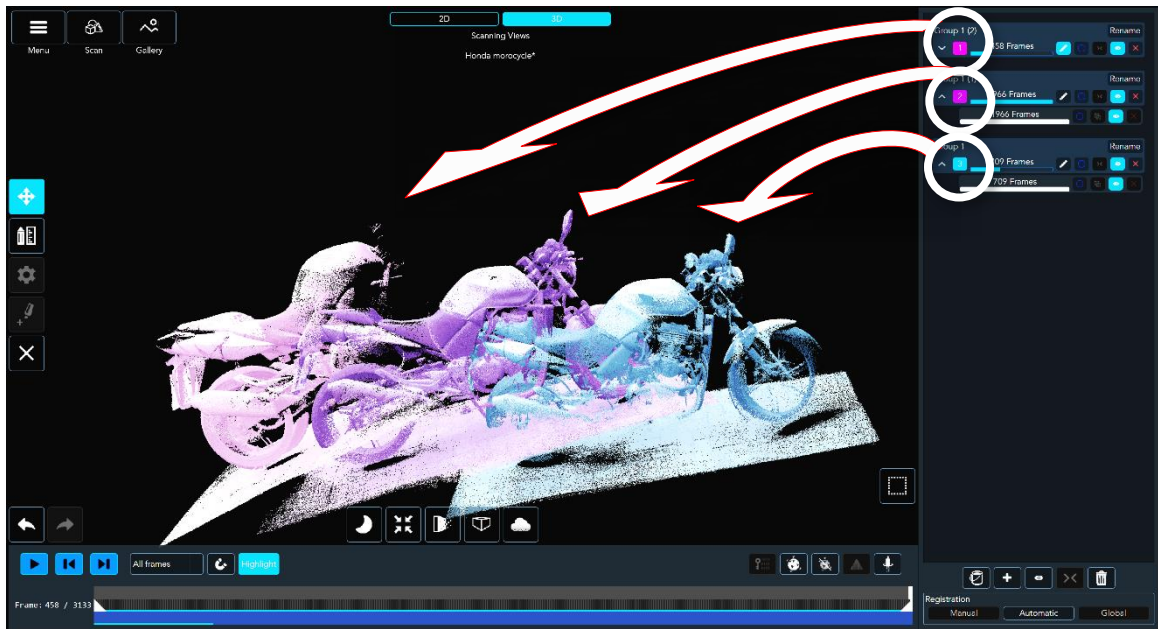

Figure 81 – Group Number's Color used for Group Identification
This Color Identifier may be switched on/off with the  **Original Colors command-button** (see section “The Segments Action Toolbar” below) to ease the identification within the edited object, as can be seen in Figure 81 below:
-  – **Original Colors** – This command-button switches the on-screen Groups in-between their original (RGB video based) colors and the ID color (see Figure 81 above) committed for the Groups in the Group Action bars.